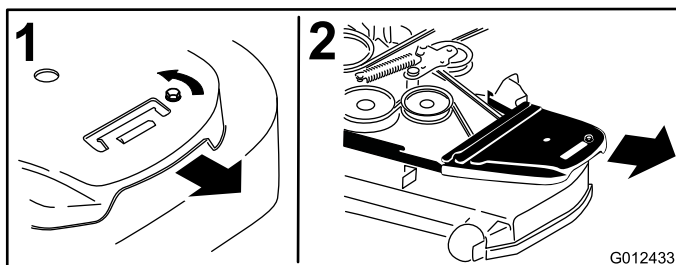

Figure 77
4. Remove the belt covers and the bolts attached to them (Figure 77).